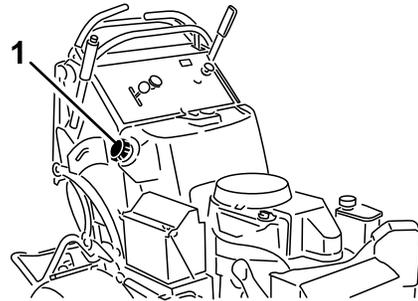

Figure 46
3. Clean around the fuel cap to prevent debris from getting into the fuel tank (Figure 46).
6. Using the syphon pump, drain the fuel into a clean fuel can (Figure 46).